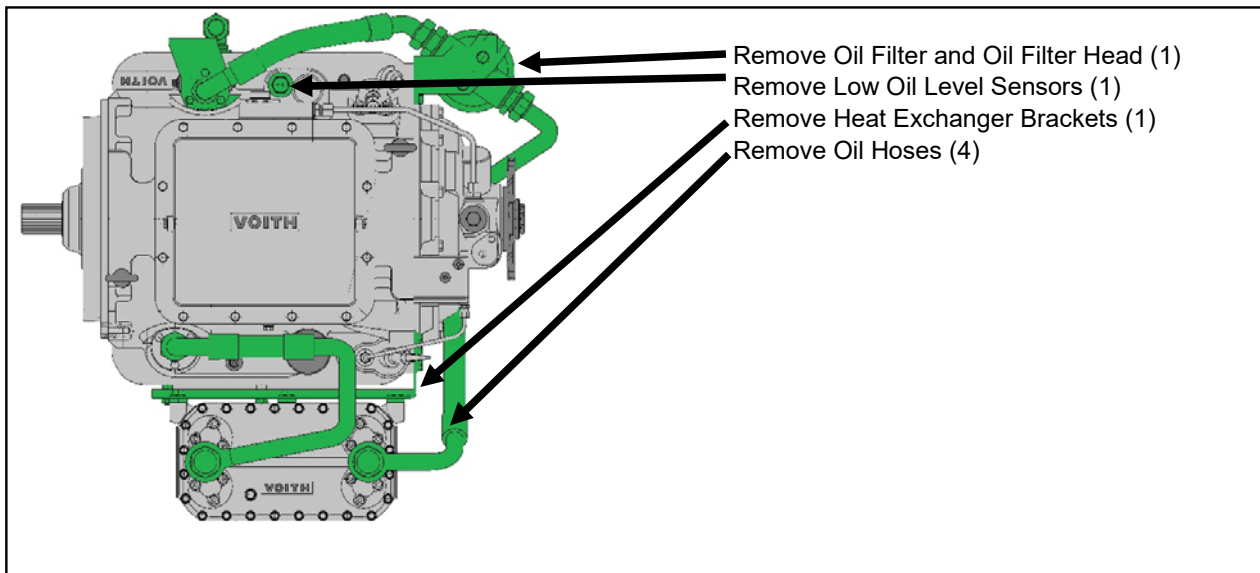
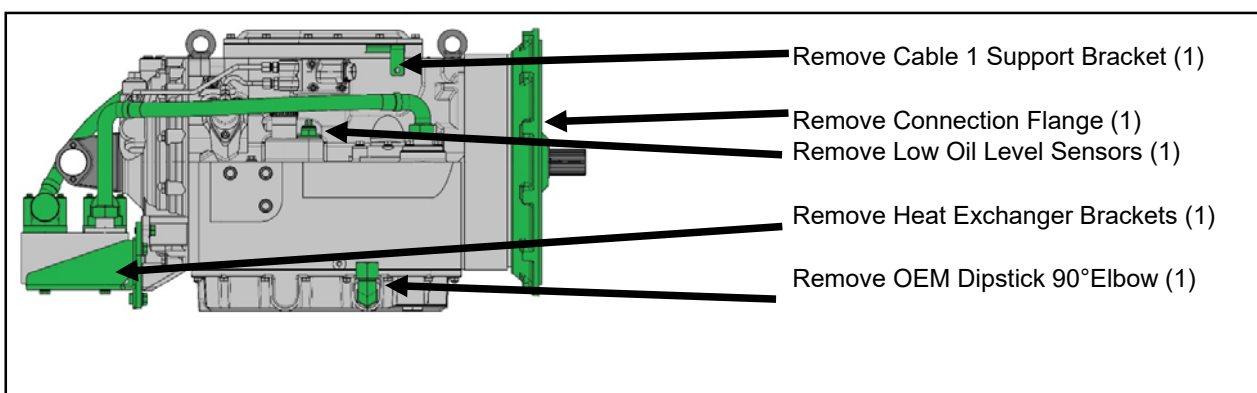

Figure 3.2c—DIWA.3 Top View
Figure 3.2f—DIWA.3E Side View
- Remove and save all oil hose lines. (Figure 3.2c – Figure 3.2f)
- Remove and save any external oil filter assemblies and mounting brackets. (Figure 3.2c)
- Remove the heat exchanger from the mounting brackets on DIWA.3 and DIWA.3E transmissions. Ship the heat exchanger with the core transmission. Retain the brackets, cooling pipes, and oil fittings. (Figures 3.2c – 3.2f)
- Remove and save any OEM brackets and any oil or water fittings. (Figures 3.2c-3.2j)
- Remove the oil level sensor on DIWA.3 and DIWA.3E transmissions. Retain the oil level sensor for installation on the Voith Service X-Change Transmission. (See Voith Service Bulletin 119 for oil level sensor repair information, if needed.) (Figures 3.2c & 3.2f)
- Remove the OEM dipstick tube and 90° elbow from the oil pan and retain the parts for installation on the Voith Service X-Change Transmission. Use the plug provided on the Voith Service X-Change Transmission to plug the opening on the oil pan. (Figures 3.2f – 3.2j)